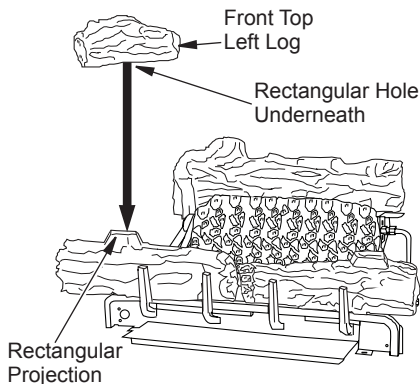

Figure 32 - Installing Top Left Front Log
5. Place top left front log onto front left log. Match the rectangular projection on top of front left log with the rectangular hole on the bottom of the top left front log. The top left front log will rest on top of the front left log (see Figure 32).